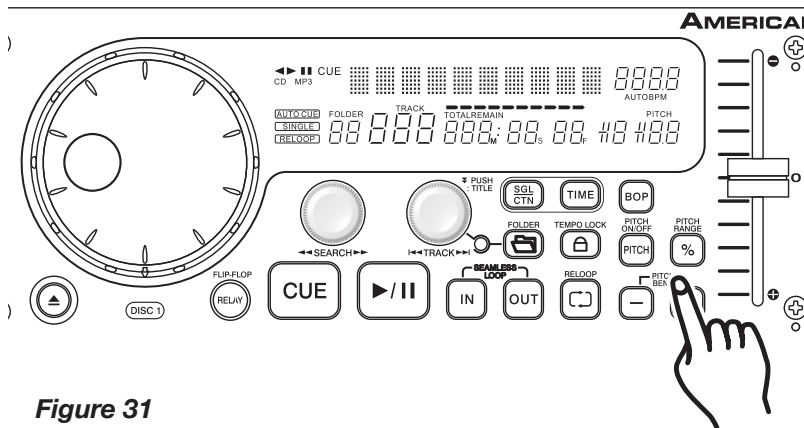

Figure 31
3. PITCH BEND BUTTONS (14):
The (+) *PITCH BEND BUTTON* (14) will increase track playback speed and the (-) *PITCH BEND BUTTON* (14) will decrease track playback speed. The extent to which the speed changes is proportionate to the amount of time the button is pressed. For example, if the (+) *PITCH BEND BUTTON* (14) is held down continuously as in figure 31, the disc speed will increase and will continue to increase until it reaches a maximum of 16% or (100% for CD) speed gain. When you release the (+) *PITCH BEND BUTTON* (14) the disc speed will automatically return to its previous set speed.
4. JOG WHEEL (1):